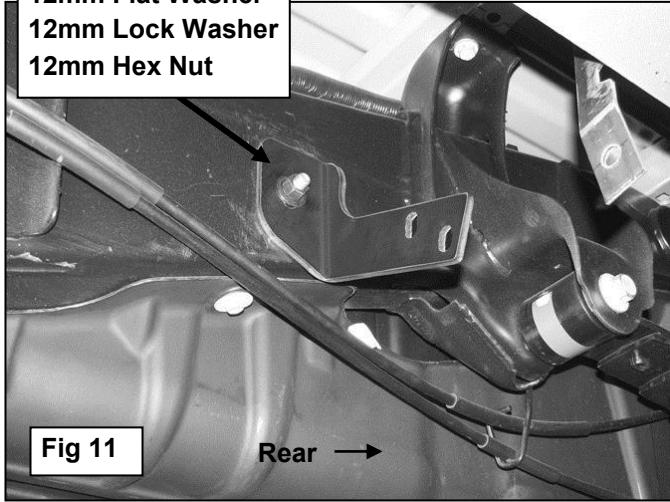

Fig 11
8. Move back along the side of the vehicle to just in front of the rear wheel opening. Locate the oval slot in the side of the frame channel in front of the leaf spring mounting bracket, **(Figure 8)**. Select (1) 12mm Bolt Plate and (1) 12mm Plastic Retainer, **(Figure 9A)**, Insert the Bolt Plate into the slot and thread the Plastic Retainer down until it is tight against the body panel, **(Figure 9B)**. Rotate the Bolt Plate so that the Plate is across the oval opening. Select the driver side Bed Mounting Bracket, **(Figure 10)**. Bolt the Bracket to the Bolt Plate with (1) 12mm Flat Washer, (1) 12mm Lock Washer and (1) 12mm Hex Nut, **(Figure 11)**. Snug but do not fully tighten Hex Nut at this time.